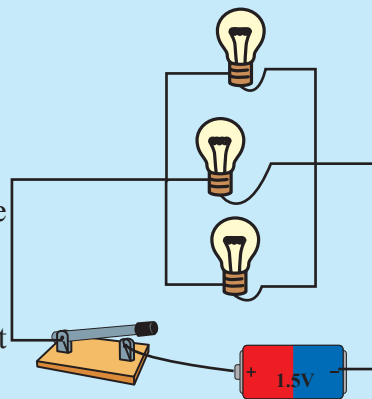

Figure 10.16 ▲
- Connect three parallelly connected bulbs to a switch and a cell as shown in Figure 10.16.